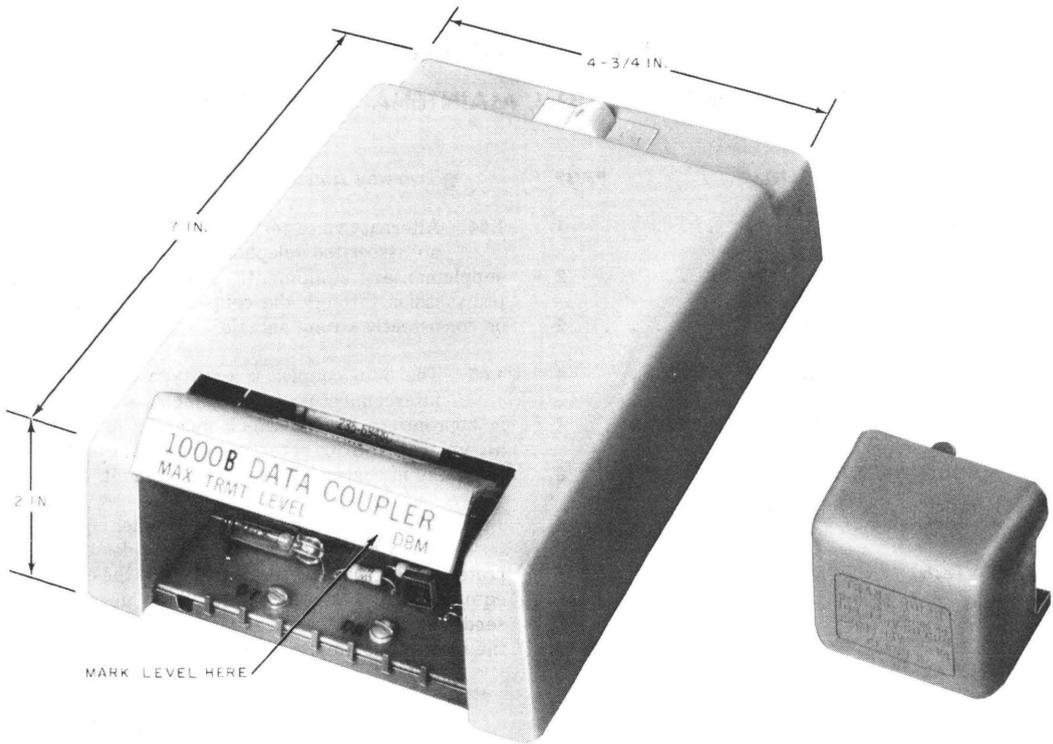

Fig. 1—1000B Data Coupler with 2012B Transformer
1.01 This section contains information required for installing, testing, and maintaining the 1000B Data Coupler (Fig 1). Detailed information is contained in SD- and CD-1D205-01.
Note: The maximum limit must be marked on the data coupler at the time of installation (see Fig. 1).